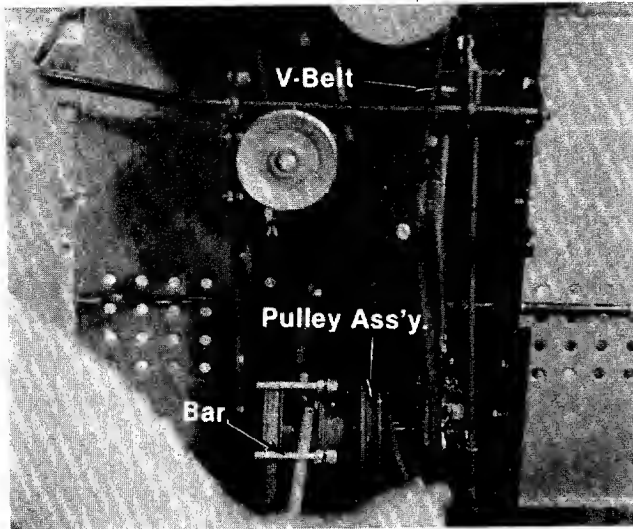

FIGURE 17.
5. Using a bar or large screwdriver, pry the pulley assembly towards the front of the tractor and unhook the belt from the pulley. See figure 17.